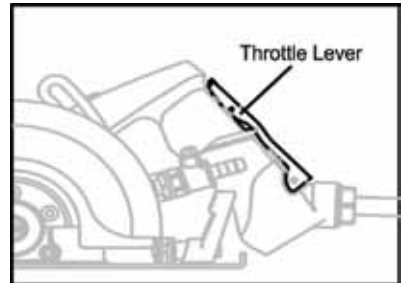

Figure 6
6. Depress the throttle lever (Part No. 3001-0071) varying the speed from very low to half speed, for a minute or two. (See Fig. 6)